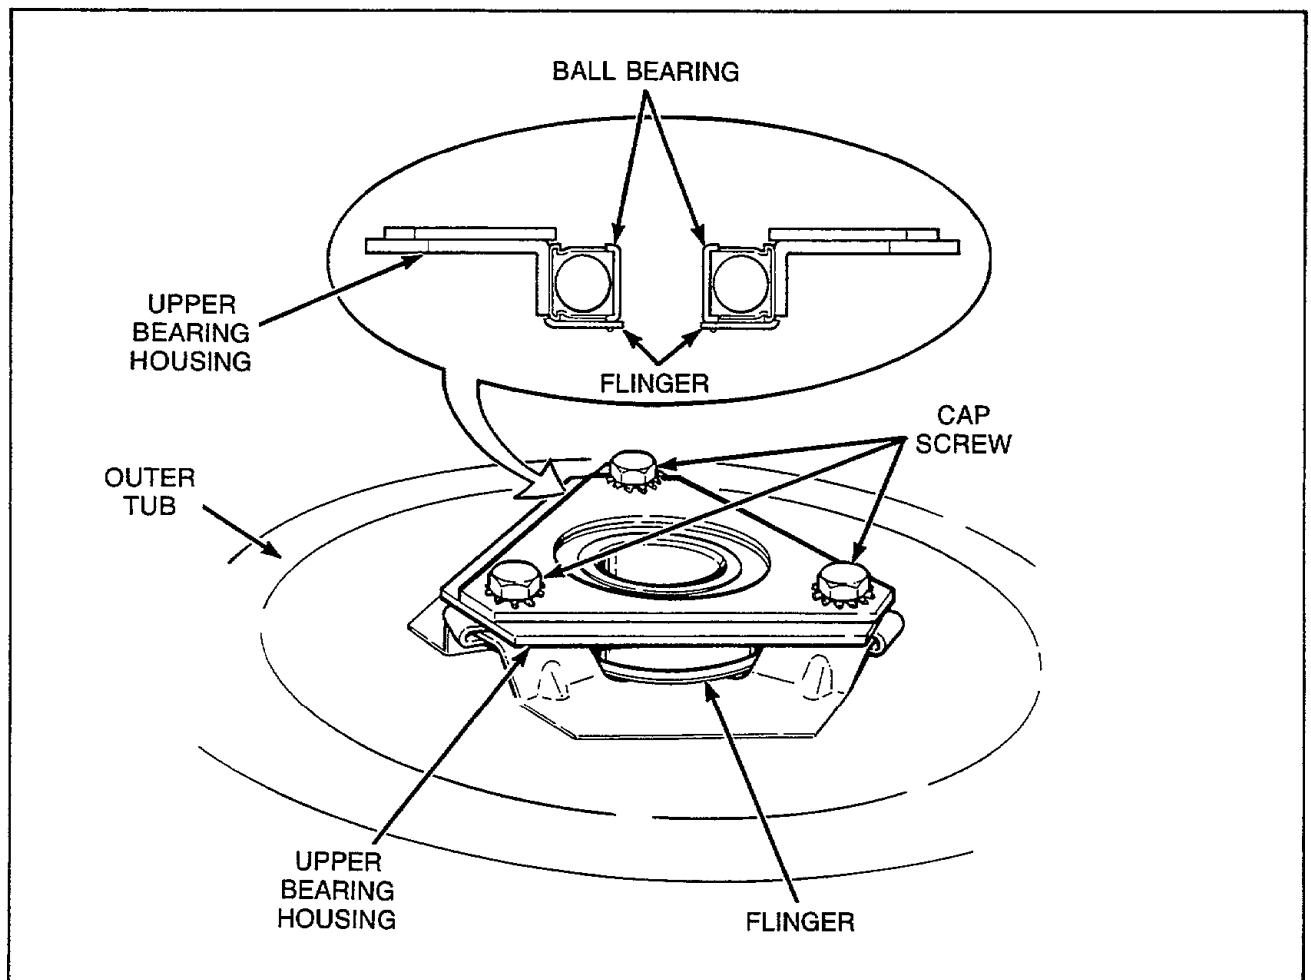

Figure 29
- c. Remove three cap screws holding upper bearing and housing to bottom of outer tub, *Figure 29*.
NOTE: Replace bearing and housing as an assembly, and be sure flinger is properly positioned between the outer tub and bearing assembly, *Figure 29*.